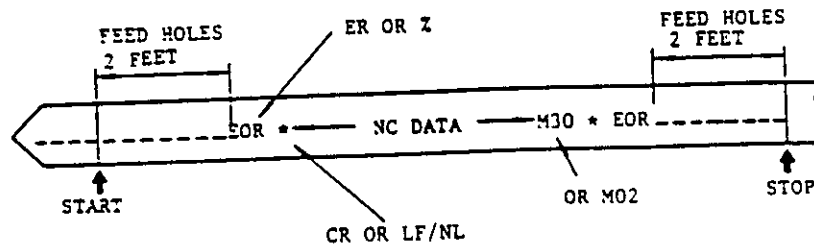

Fig. 4.7.2
- If the number of punched out characters in a block is odd, a space character for TV check is automatically punched. Each end of the NC tape is provided with feed holes, Fig. 4.7.2.